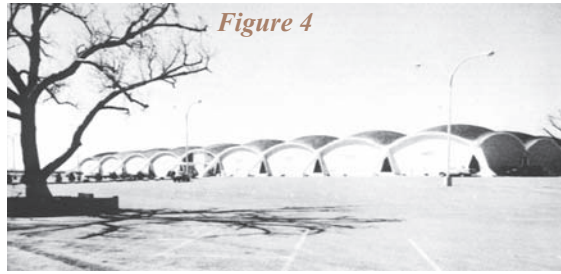

Figure 4
translational shell for a supermarket project, shown completed in **Figure 4** (see next page). Based on these steps, the rest of the preliminary design fills no more than one page. Obviously, more accurate analysis was needed prior to final design - but the conceptual thinking of a master designer is clear. And the sequence from initial concept to final design, from back-of-the-envelope calculations to refined analysis, might be of particular interest in this computer-dominated age.
- Fig. 4 Fan Fare Supermarket, Denver, CO